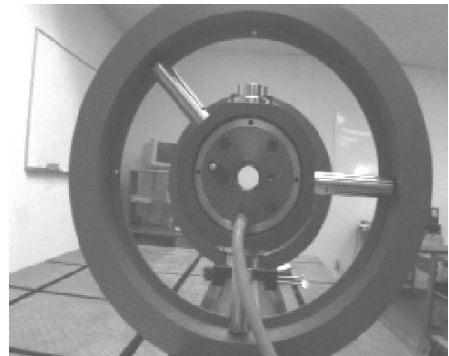

Figure 28 -- Bore Target in the NORMAl position (target cable trailing downward from the bottom of the target).
1. Place the T-218/T-225L Target in the *Near Bore* in the NORMAl position (see Figure 28).
10. Insert the T-218/T-225L back into the *Near Bore* in the NORMAl position (see Figure 28).
1. Take a reading on the near target with the target in the normal position (see Figure 28). Write down the **V** and **H** Readings (NORMal).